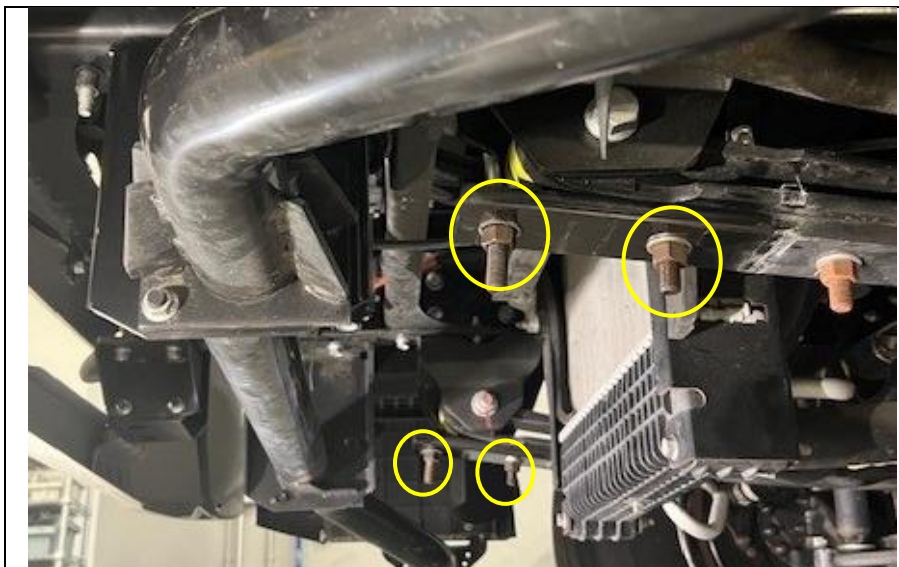

Figure 3
5. Reinstall the original washers and nuts on each of the four stabilizer bar bracket studs and hand tighten. (See Figure 3.)